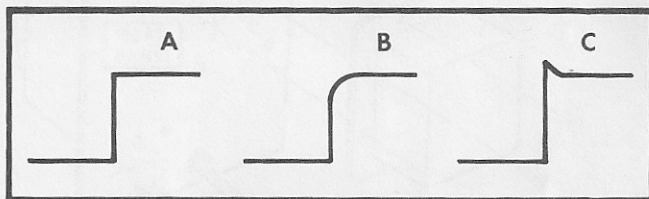

Figure 8
Figure 8 shows the waveforms for the correct amount of circuit compensation, too little compensation, and too much compensation respectively. When making the following adjustments, the waveform should look like Part A of Figure 8.
- () Adjust the X10 trimmer capacitor until the waveform appears as shown in Part A of Figure 8.
- () Adjust the X100 trimmer capacitor until the waveform appears as shown in Part A of Figure 8.
- () Adjust the VERTICAL COMPENSATION CAPACITOR until the waveform appears as shown in Part A of Figure 8.